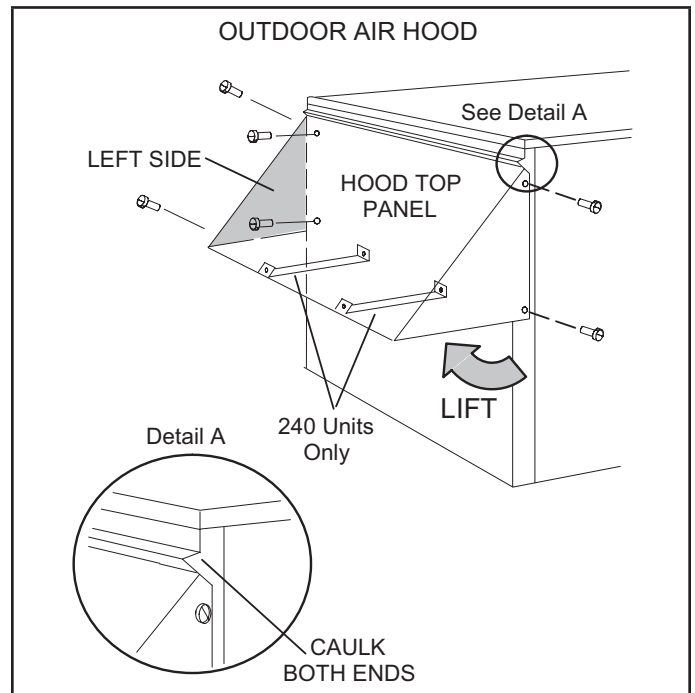
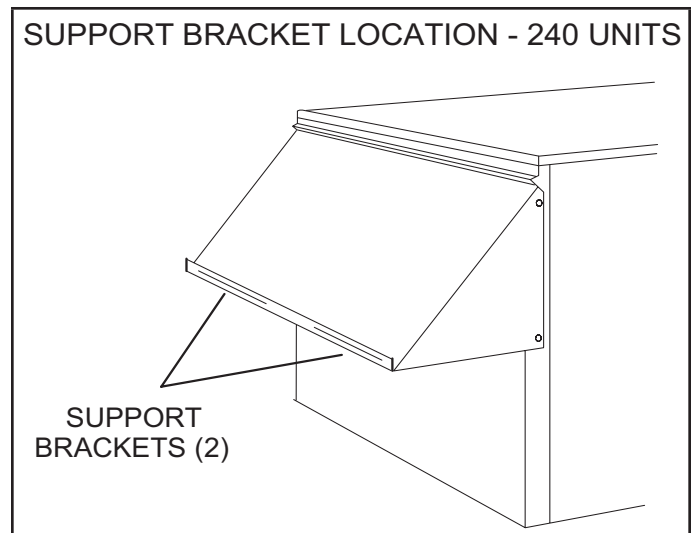

FIGURE 12
FIGURE 13
- 3 - Lift (rotate) the bottom of the hood top panel and attach left side to hood top panel. See FIGURE 12.
- 6 - 240 Units Only - Remove two support brackets from hood top panel flange. See FIGURE 13. Install as shown in FIGURE 12.